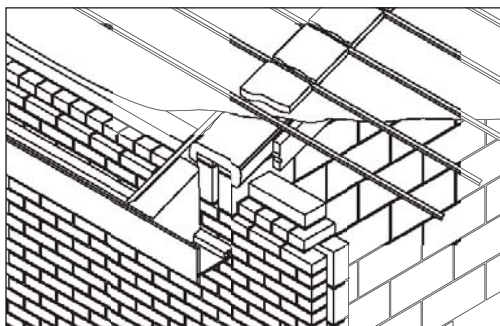

Fig 21 – Party wall fire stopping.
- Filling must be securely fixed without support from the soffit board (Fig 21). The following materials can be useful for this purpose: